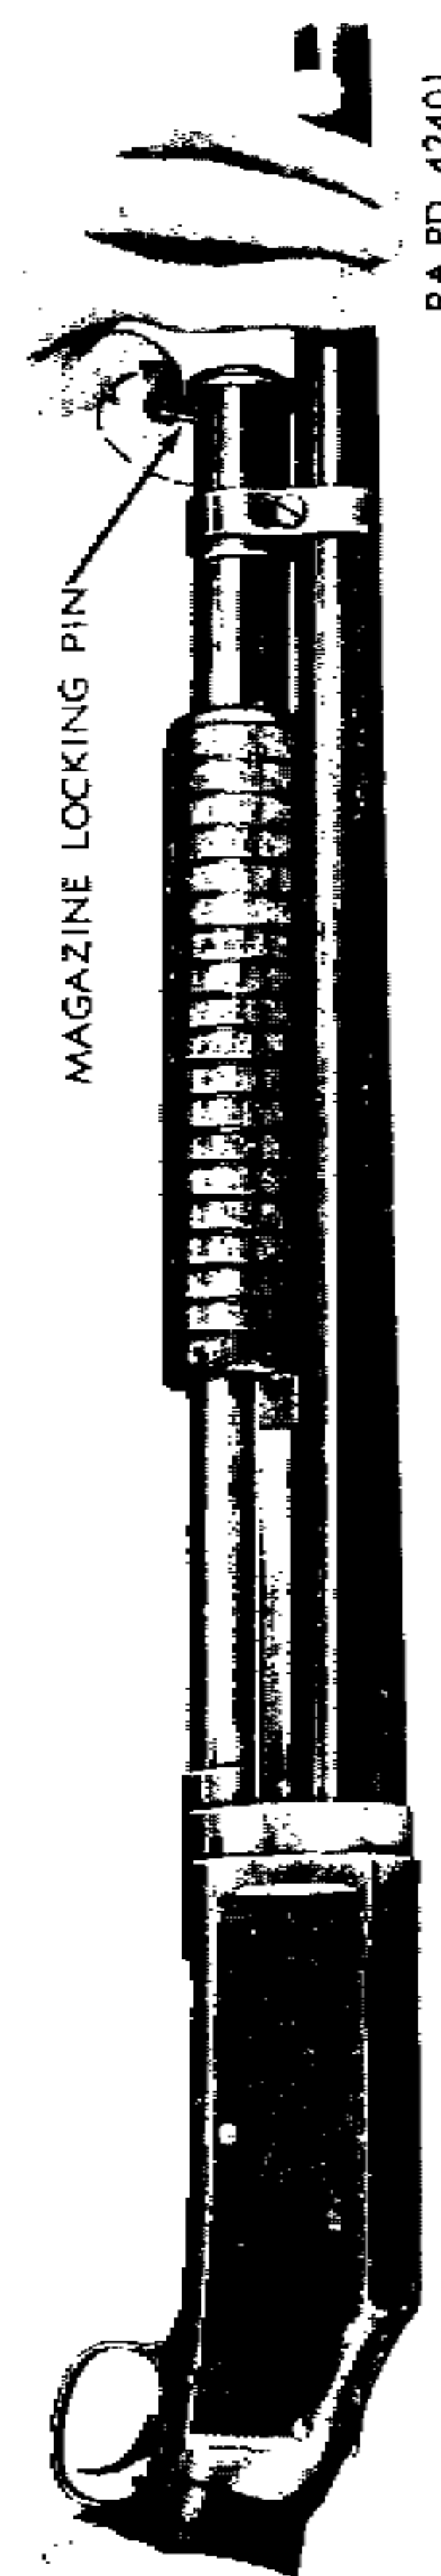

Figure 16—Unlocking Magazine from Receiver—Winchester Shotgun M97 (Take-down)
**(c)** The barrel and magazine of the modified type of solid-frame gun (par. 4 c) may be removed separately but should not be removed unless necessary. The magazine is first removed (par. 8 a (1) (b)) by turning ¼ turn clockwise to disengage the interrupted threads on magazine from those in receiver and then withdrawing magazine and action slide together from receiver. The barrel can then be removed by turning ¼ turn clockwise and withdrawing from receiver. This gun can be identified by the receiver extension screwed to the rear end of the barrel, similar to the take-down gun.
**(2) BARREL, MAGAZINE, AND ACTION SLIDE GROUPS (TAKE-DOWN GUN).**
**(a)** Lock action by pushing action slide fully forward. Unlock the magazine by pressing the locking pin through the plug until it will clear the barrel when the magazine is turned (fig. 16).